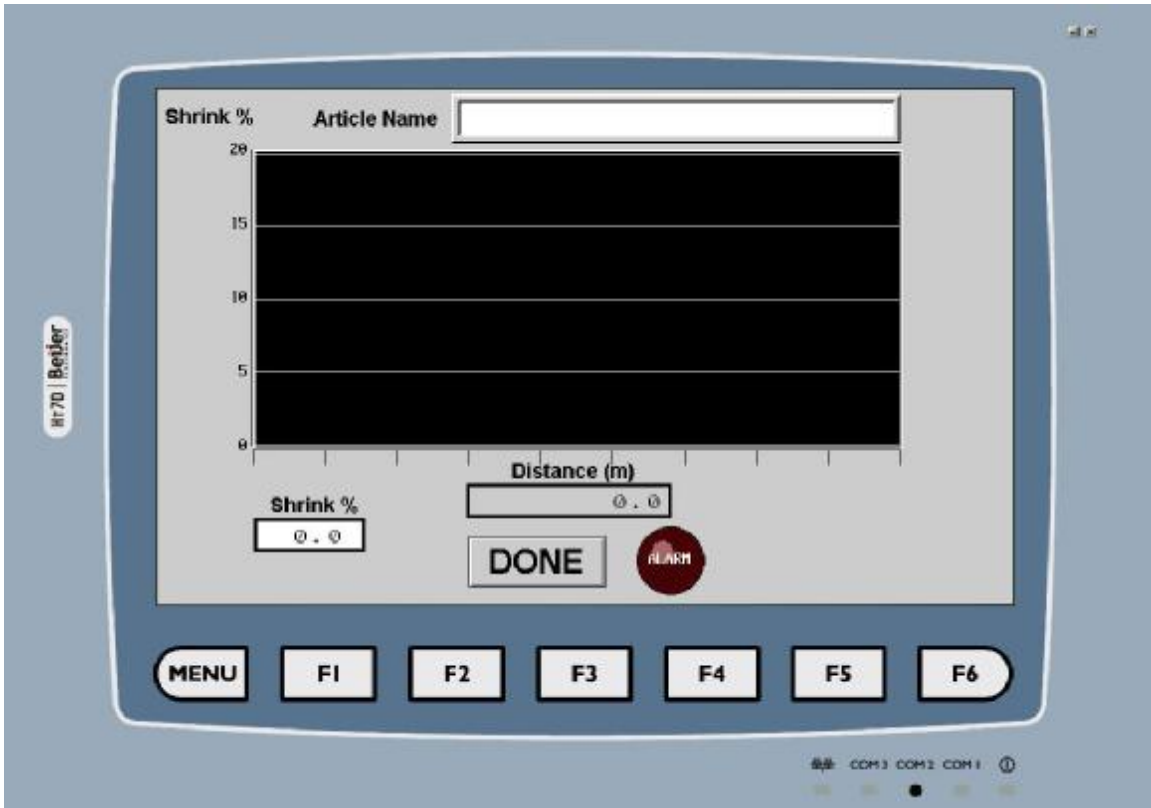

Figure 2
- b. The operator should now press the **Data** button. This switches the system to the **Data Screen** (figure 2.). The operator can observe the shrinkage performance of the sanforizer from this screen.